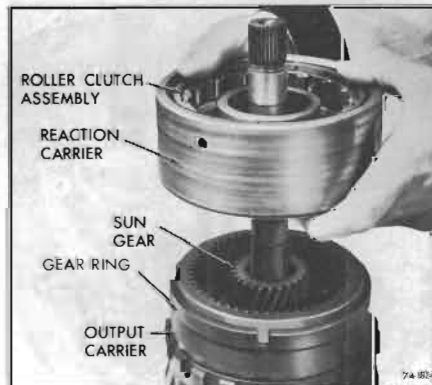

Figure 74-562
4. Remove reaction carrier and roller clutch assembly. See Figure 74-562.